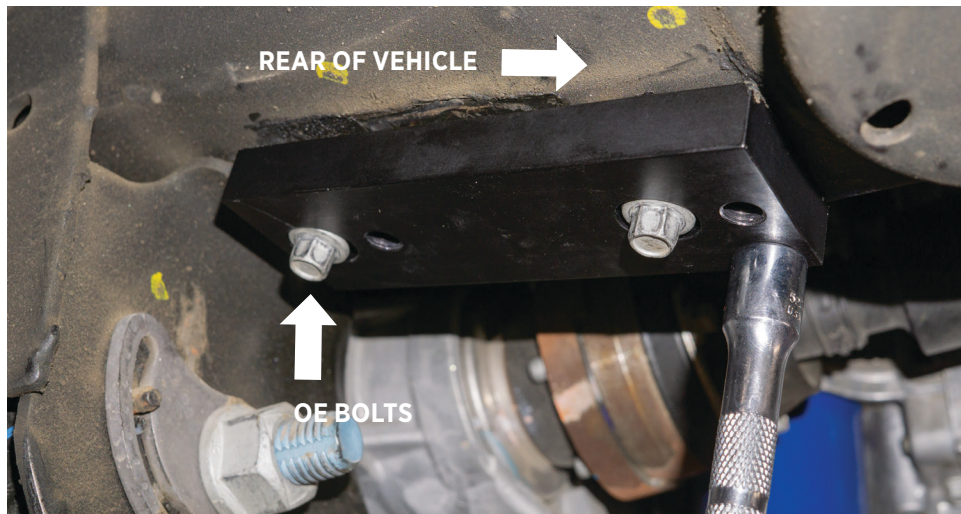

Fig. 4: Install the OE bolts.
5. Line up the recessed holes on the relocation block with the original mounting points on the vehicle's frame. The relocation holes on the block point toward the rear of the vehicle. Use the OE bolts and fasten the block to the frame. Torque the bolts to manufacturer specification (Fig. 4).